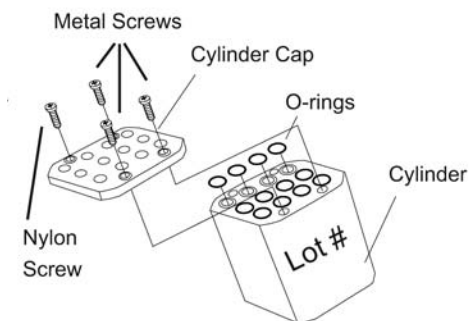

Figure F.2.3a: Removing O-rings
- **125µl, 30µl, 12.5µl Pipettors:** O-rings from these pipettors are located in the cylinder. To remove the O-rings, unscrew the four screws that hold the cylinder cap to the cylinder (see Figure F.2.3a). Once removed, the O-rings should be discarded as biohazardous waste.